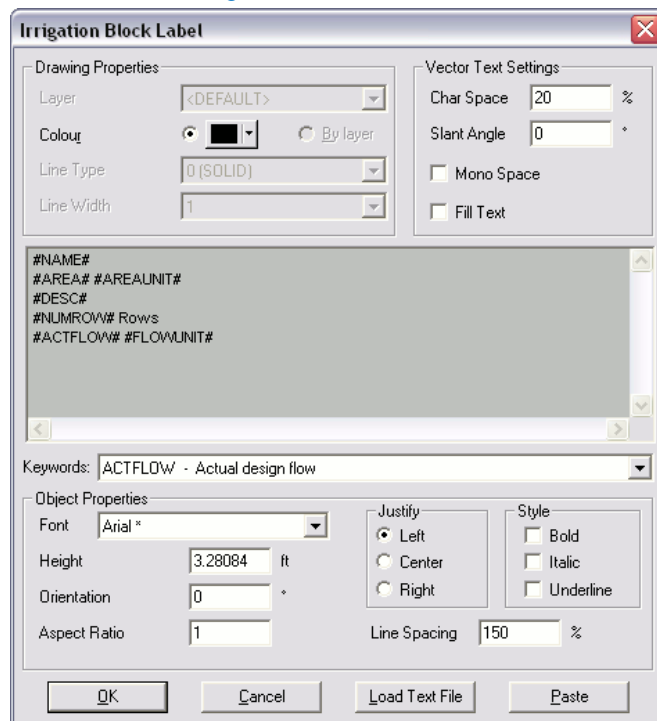

Figure 4-35
18. Click **[OK]** when you have finished entering the text, the dialog should look like Figure 4-35 below.